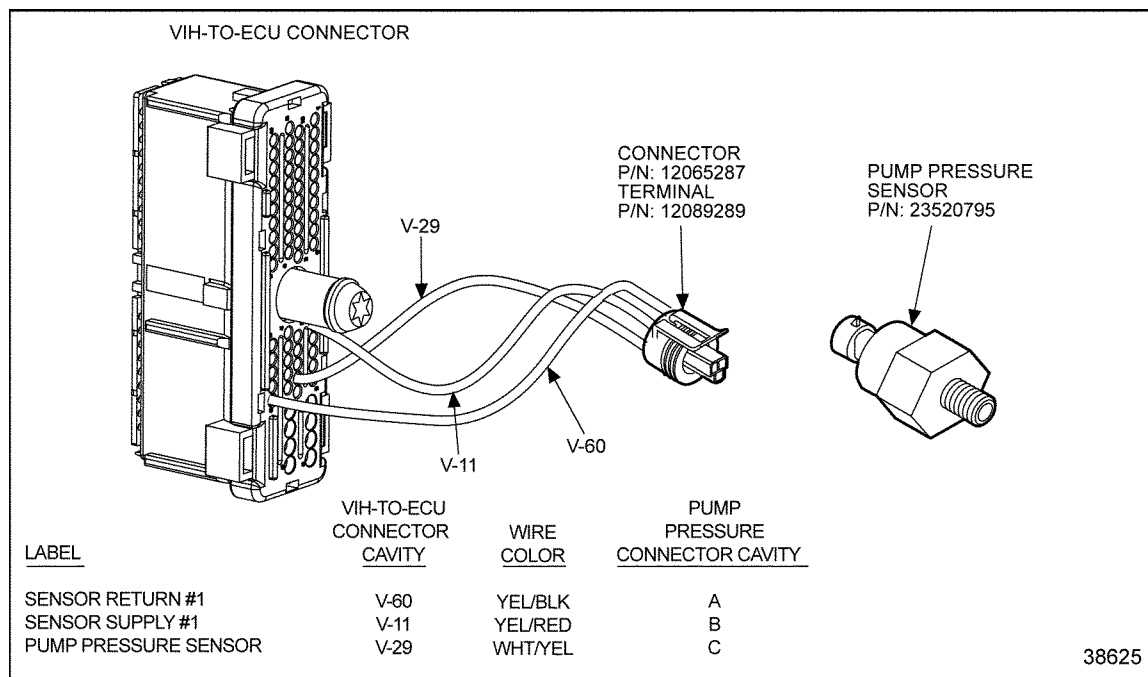

Figure 19-8 Pressure Sensor and Harness Connector
Compare pressure sensor harness wiring to the diagram. See Figure 19-8. If the EFC tests okay, refer to section 19.13.5. If the wiring is incorrect, correct the wiring and retest.
- [a] If DDR displays ON when Pressure Mode is selected, the mode selector V-26 is functioning properly. Check for possible intermittent open or short to voltage source. Check for faulty pressure transducer. Refer to section 19.13.4. See Figure 19-8.